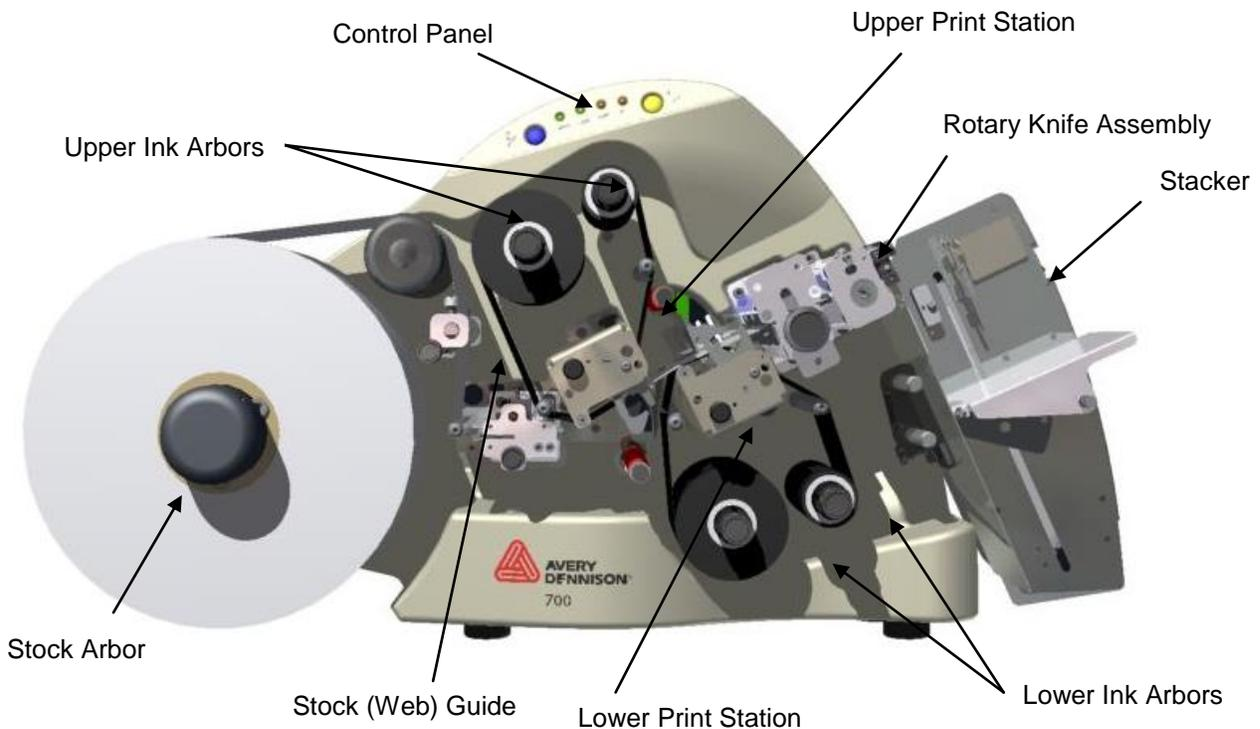

Figure 3. SNAP 700 Printer
**NOTE:** Please take some time to become familiar with the printer's major components and their functions. Refer to Figure 3.